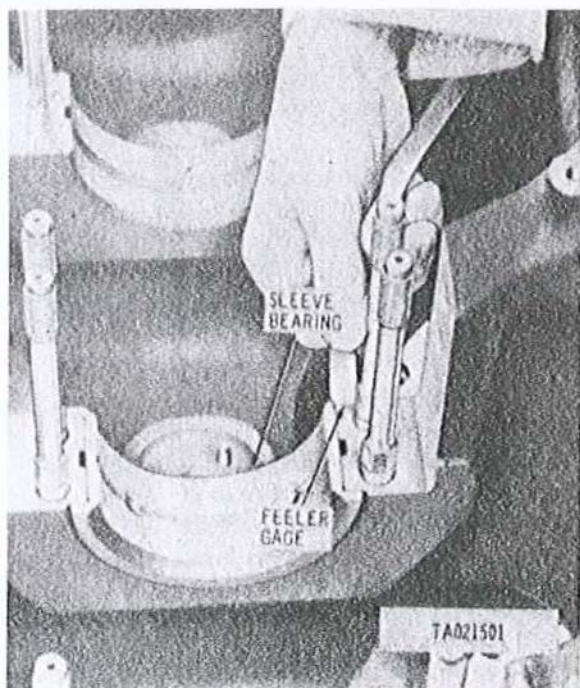

Figure 3-153. Checking clearance between upper main thrust bearing flange and crankcase.
(3) Spread a thin coat of Prussian blue Part No. MIL-P-30501, over steel backs of upper and lower main sleeve bearing halves to show the sleeve bearing contact surface with the main bearing bore in crankcase. Install bearings in their original location in crankcase and main bearing caps.
(4) Check clearance between upper bearing flange and crankcase. Install upper main thrust sleeve bearing into No. 4 main bearing seat of crankcase. Measure clearance between bearing flange and crankcase using feeler gage (fig. 3-153). Clearance should be 0.004 to 0.008 inch.
(5) Check clearance between the lower main thrust bearing flange and thrust bearing cap in the same manner as shown in figure 3-153.